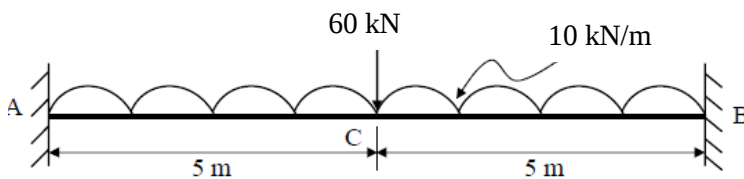

Figure 1
- (b) Analyse the fixed beam shown in figure 1. Draw shear force and bending moment diagram. **07**